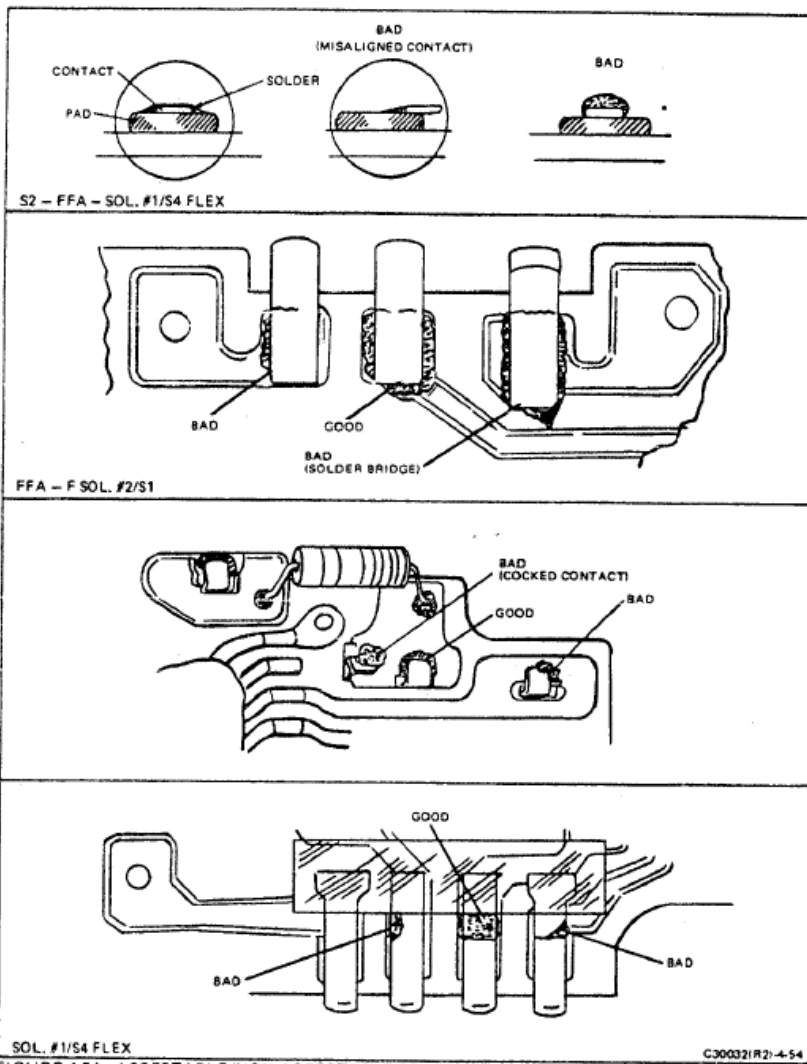

FIGURE 4-54 ACCEPTABLE/NON-ACCEPTABLE SOLDER JOINTS
- e. Check each of the solder leads visually. Figure 4-54 shows examples of good and bad solder joints. Be certain that the solder joints conform to the good examples. (A usually accurate indication of an acceptable connection is a neat, shiny solder joint.)